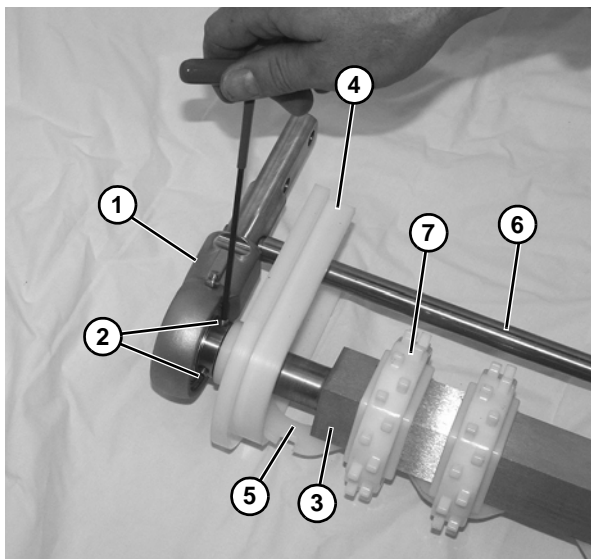

Figure 58
9. Remove the bearing cover from bearing shaft assembly (**Figure 58, item 1**).
10. Use a hex wrench to loosen two set screws (**Figure 58, item 2**) on the bearing shaft assembly (**Figure 58, item 1**).
11. Slide the bearing shaft assembly off of the drive spindle (**Figure 58, item 3**). Slide bearing shaft assembly off the drive spindle on opposite side.
12. Remove pinch guard (**Figure 58, item 4**) on each side.
13. Remove sprocket alignment bar (**Figure 58, item 5**), and pinch guard shaft (**Figure 58, item 6**).
14. Remove the sprockets (**Figure 58, item 7**).